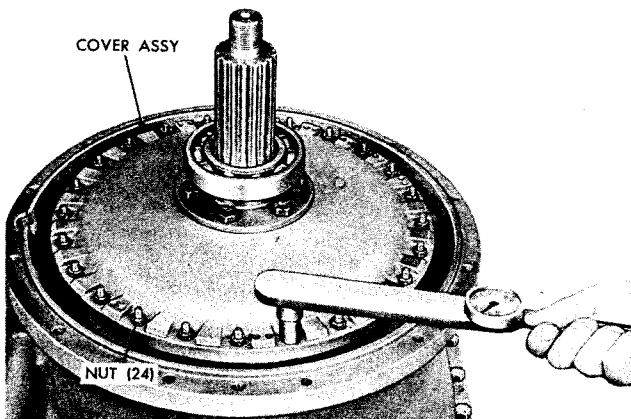

Fig. 7-37. Installing converter cover nuts (remote mount)
(1) Lubricate the splitline sealring (later models), and install the torque converter cover assembly (as assembled in para 6-5). Retain the cover with twenty-four new 5/16-24 self-locking nuts (fig. 7-37). Tighten the nuts evenly to 14-17 lb ft (19-23 N·m).